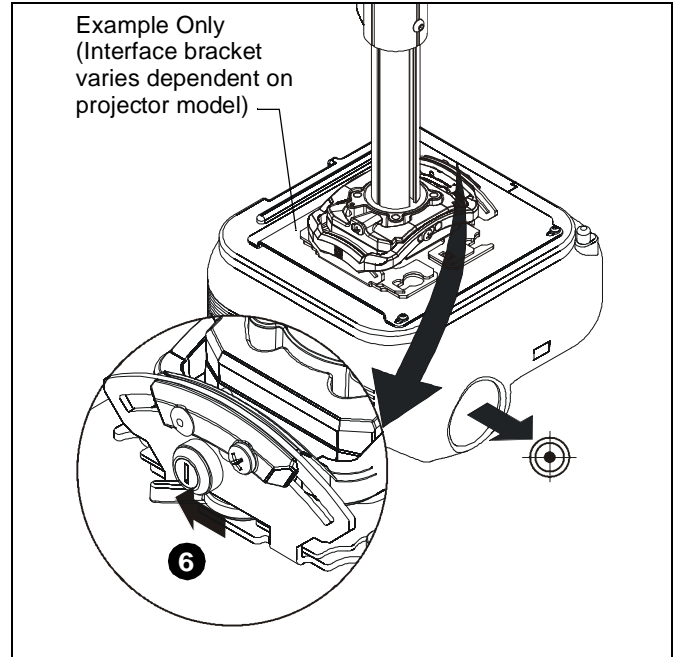

Figure 5
6. Move locking lever to "Locked" position. (See Figure 5)